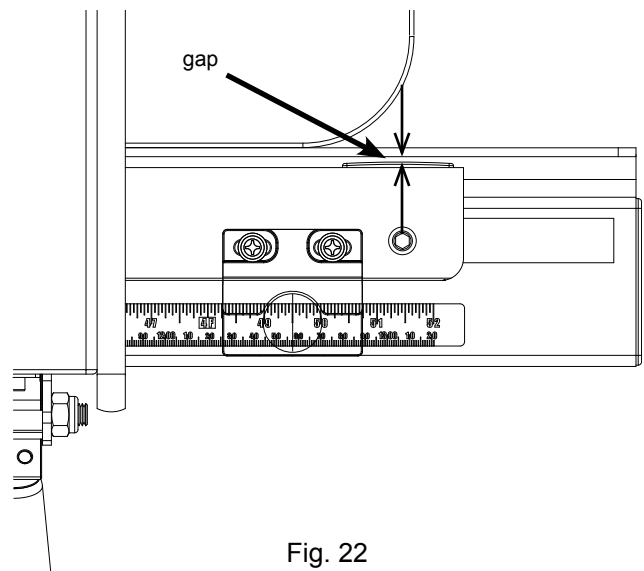

Fig. 22
22. Next, move the fence to the right end of the tube, repeat the above process to position the tube, and tighten the right-most screw (see Fig. 22). Once both ends of the tube are adjusted correctly, tighten the remaining M8 x 16 hex head screws to mount the front tube to the front rail. The fence should now slide smoothly along the front tube without binding and without excessive play.